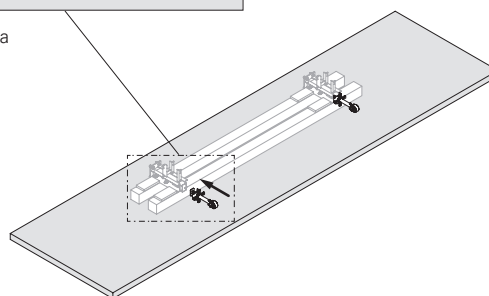
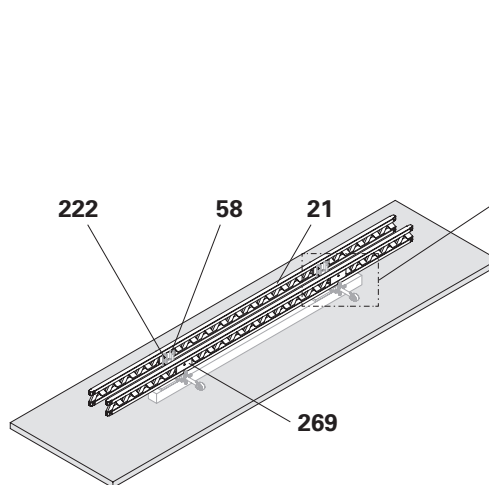

Fig. B9.02
Fig. B9.03
2. Slide the base end of the Supporting Spindle ACS (59) into the Platform Beam ACS (58) and screw it to the front side of the Platform Beam ACS (58) with the fixing materials supplied. (Fig. B9.02 + B9.02a)
3. Place the Formwork Girders GT 24 (21) on the Platform Beams ACS (58) as girders and align them.
4. Pre-drill the Formwork Girders GT 24 (21) with $\varnothing 9$ mm holes and screw them to the Platform Beams ACS (58) with F.H. bolts DIN 603 M8 x 100 MU (222). (Fig. B9.03)